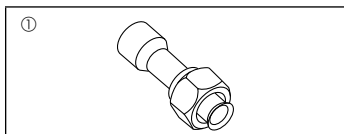

Fig. 1-1
1.6. Accessories of outdoor unit (Fig. 1-1) (HRP200)